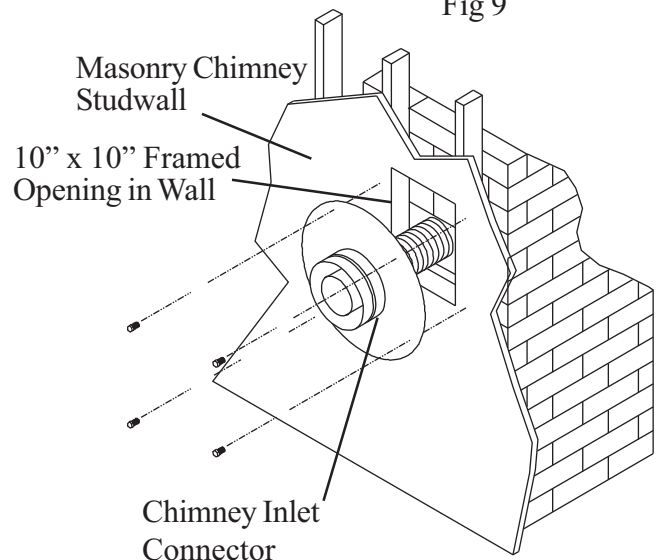

Fig 11
2. Once the center point of penetration has been determined, cut a 6-inch diameter hole in the masonry. Be careful, if the hole is too large, the Chimney Inlet Connector might not mount properly, and if the hole is too small, then the appliance might starve for intake air. If there is a frame wall in front of the masonry wall, cut and frame a 10" clear square opening in wall (centered around the 6" masonry opening). If there is sheet rock only (no studs) in front or the masonry, the 10" clear opening is still needed, but does not need to be framed. This allows the Chimney Inlet Connector to mount directly on the masonry and provide clearance to the combustibles. Refer to Figure 11.
9. Slide Chimney Inlet Connector against the masonry wall and secure with masonry bolts. Re-drill larger holes on connector as needed. Be careful to insure that the connector is centered in the opening and the mounting holes line up with the masonry wall. If you have a framed wall in front of the masonry, use wood screws to mount the Connector to the framed wall, shown in Figure 11. If needed, add a section of direct vent pipe to the Connector in order to extend through the opening.